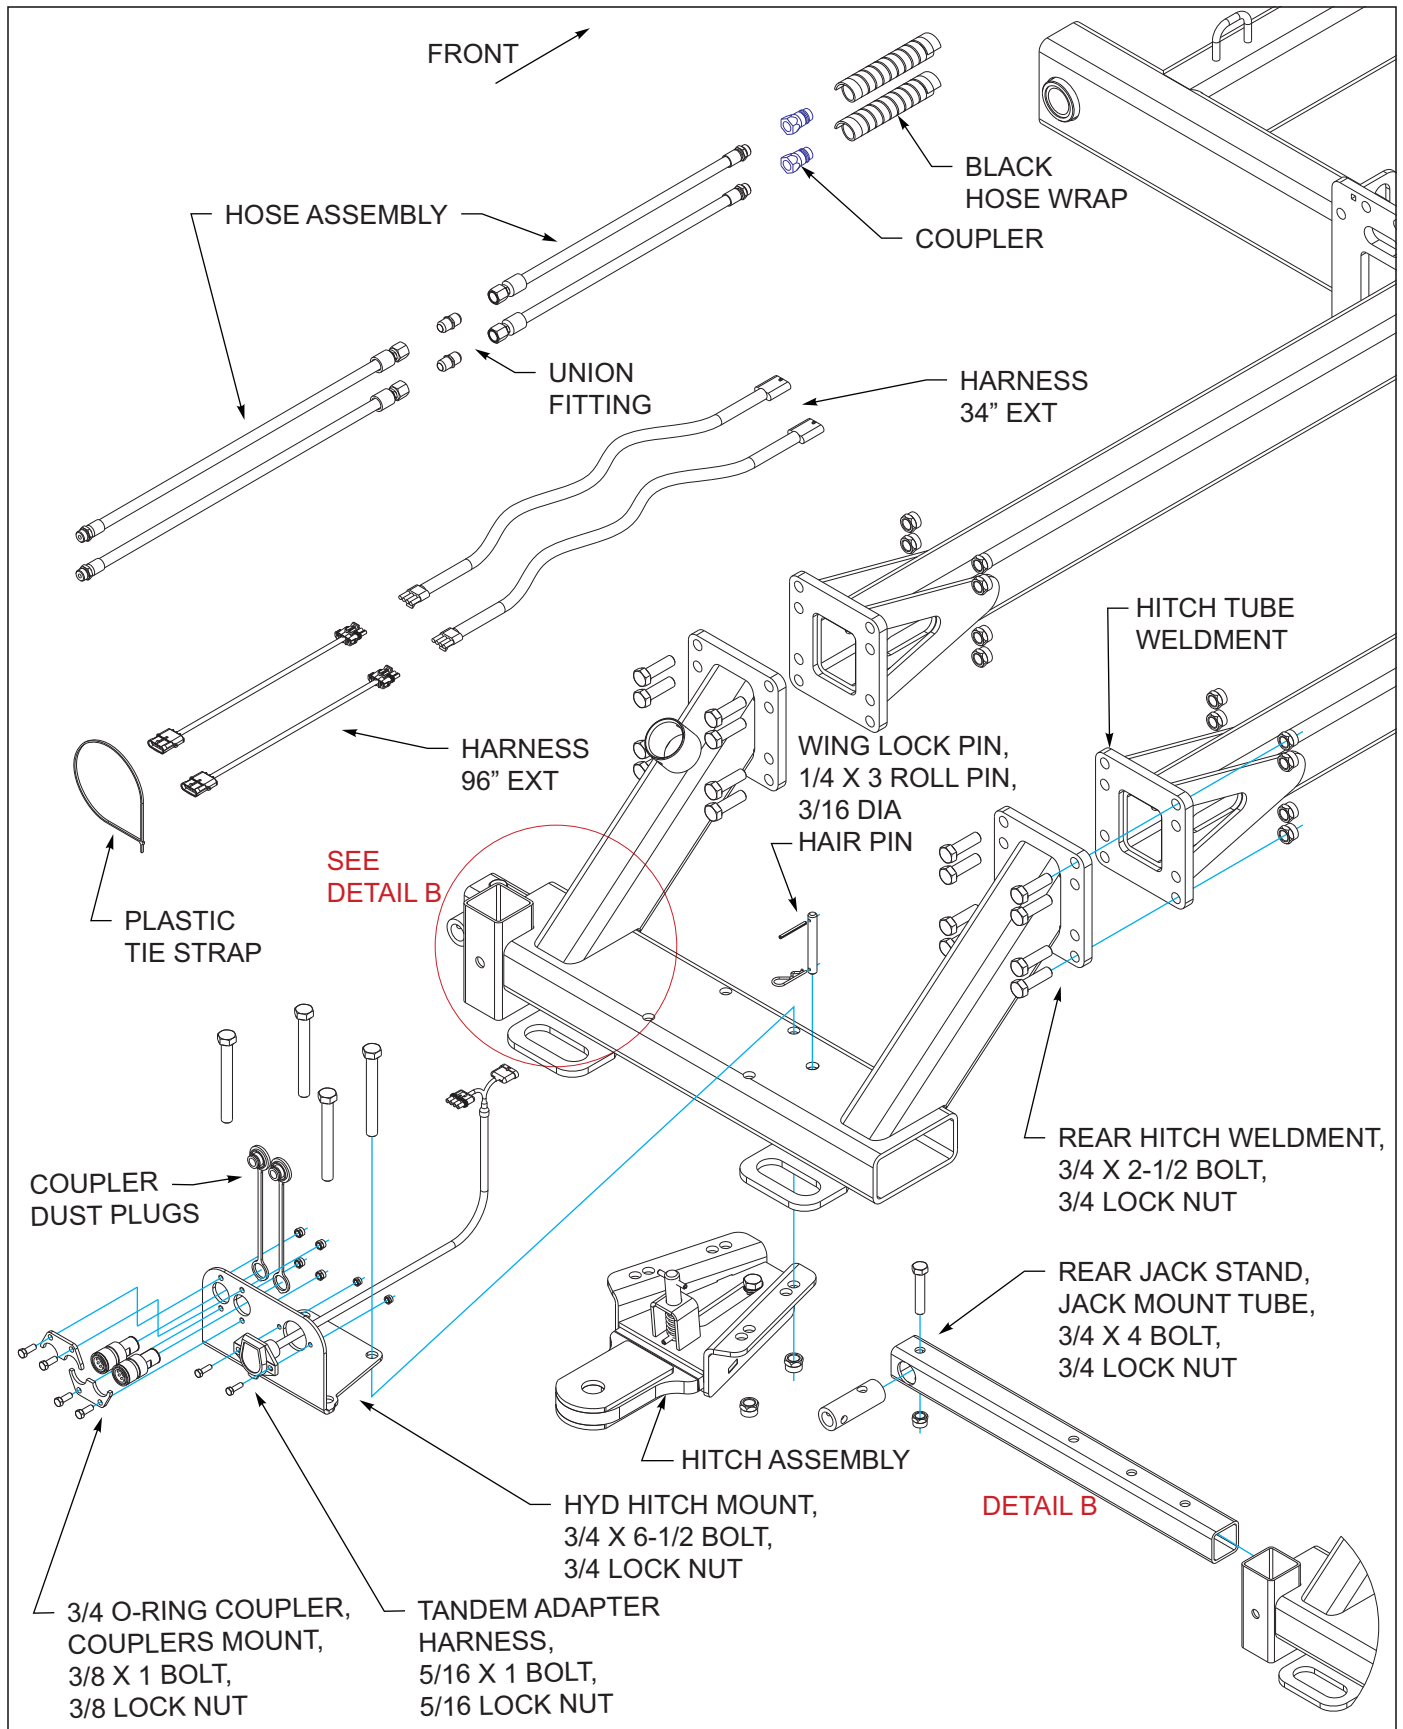

Figure 3-39: Rear Tow Hitch Installation (2 of 2)
5. Attach rear hitch weldment to rear of hutch tube weldments using 3/4 x 2-1/2 bolts and 3/4 lock nuts *See Figures 3-39.*